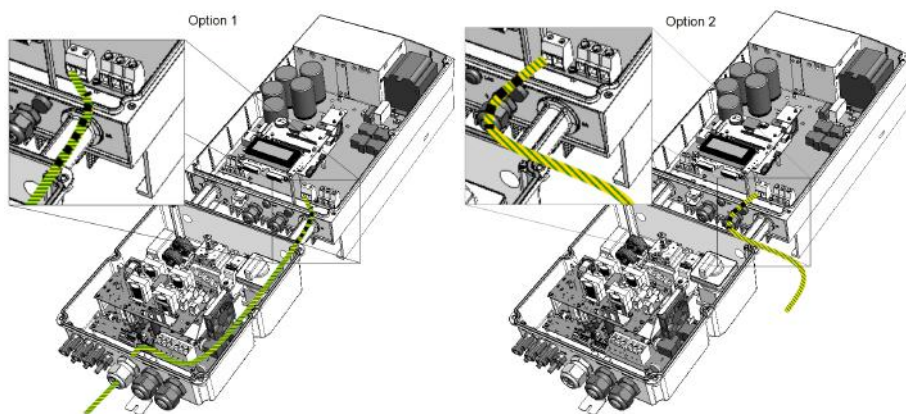

Figure 19: Routing grounding cable from the battery
2. Insert the grounding cable using one of the following methods (see *Figure 19*):